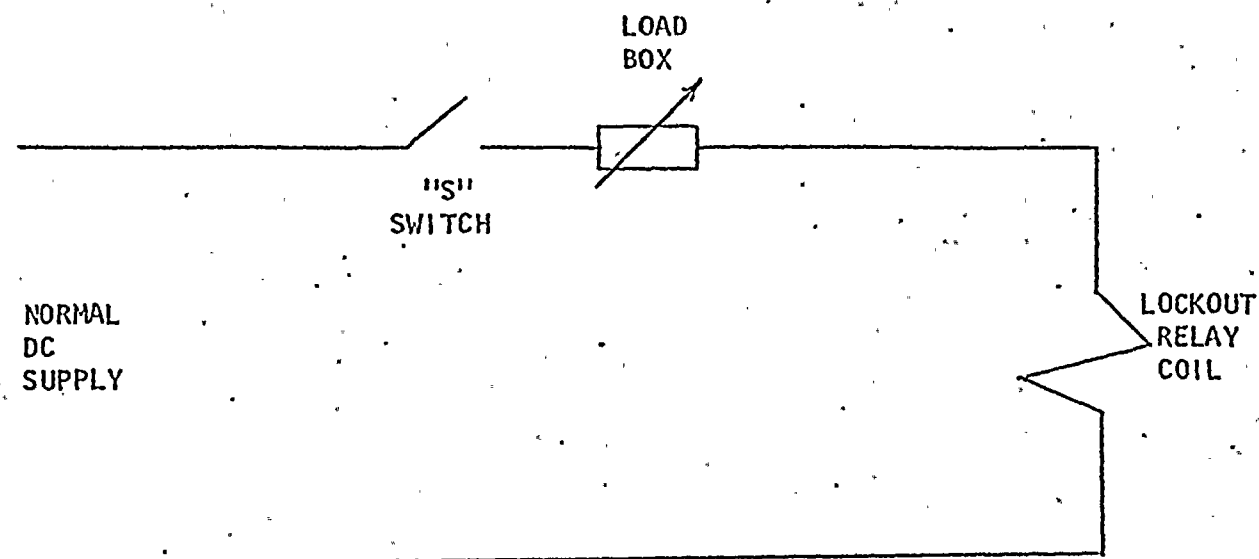

FIGURE 1
5.2.1 Set up test equipment as in Figure 1.